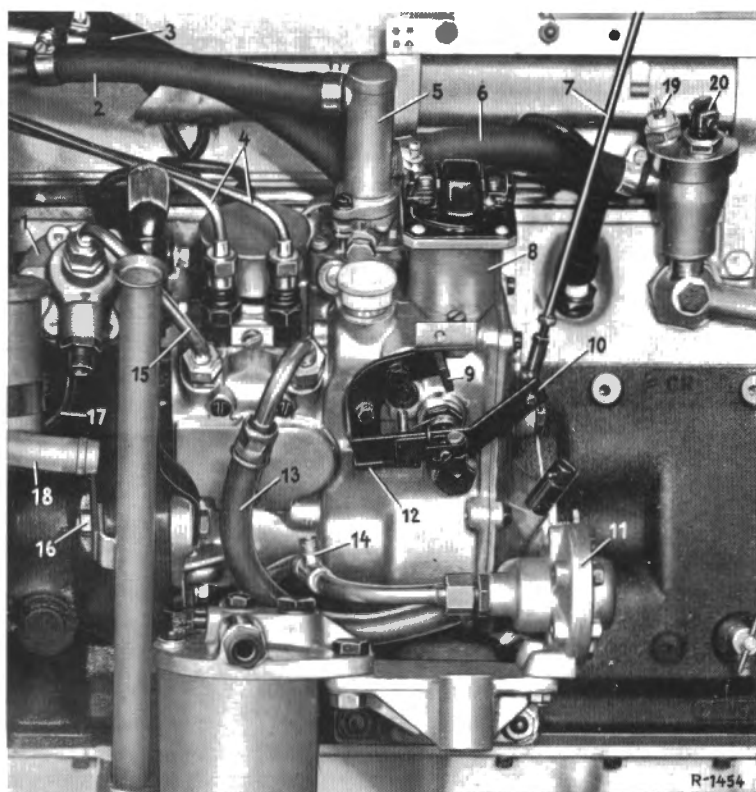

Fig. 07-12/1
2. Drain off part of the cooling water. Unscrew the cooling water hoses (2) and (6) as well as the supplementary air line (3), oil line (17) and the fuel lines from the injection pump (Fig. 07-12/1 and 07-12/2).
3. Detach the control rod (7). Disconnect the cable from the cold start magnet.
4. Unscrew the fixing nuts (16) and on Models 230 SL and 300 SE unscrew the rear pump bracket and remove the injection pump toward the rear. Remove the coupling sleeve (Figs. 07-12/1 and 07-12/2).
lug must be held steady with Serrated Wrench Part No. 621 589 00 08. To make room for the puller, two adjacent cheese-head screws for fastening the flange to the injection pump must be screwed out (see Fig. 07-12/3). After having pulled off the drive lug, do not forget to screw the two screws in again.
Set the piston of the first cylinder to TDC (intersection dead center or ignition dead center) and turn the camshaft of the injection pump until the line mark on the camshaft is indexed with the line mark on the flange of the injection pump (Fig. 07-12/3).